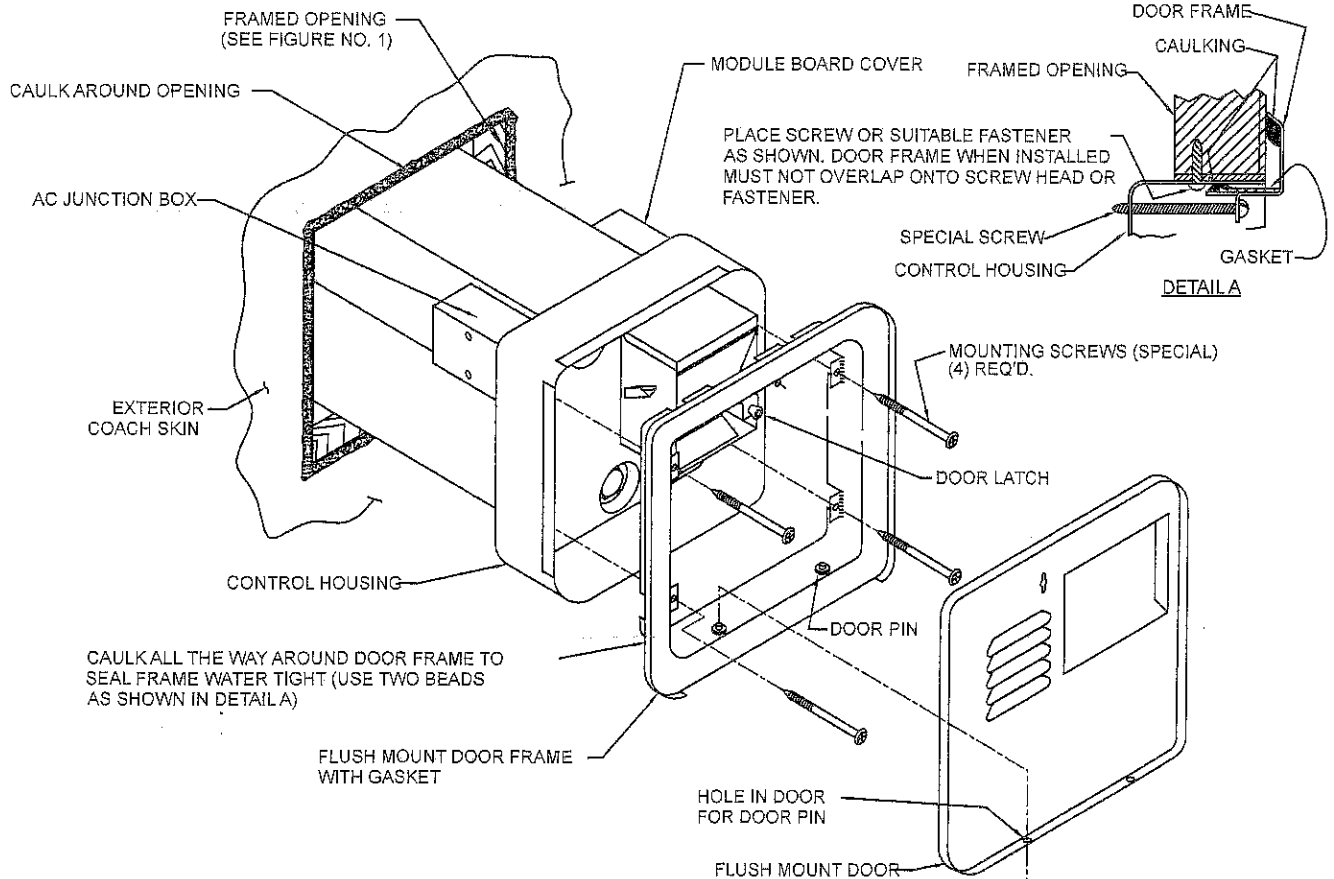

Figure 2
(See Figure 2)
- A. Position heater into framed opening as illustrated in Figure 2. Slide unit into opening until the front of the control housing is flush with the exterior coach skin.
- E. Caulk around framed opening (trailer skin) as illustrated in Figure 2.
- F. Caulk around door frame using 2 beads of silicone caulking (or suitable caulking) - one on flange to seal to control housing and one around back side of frame to seal to coach skin. (See detail A in Figure 2).
- G. Insert door frame into control housing and secure with three (4) No. 8-15 x 3 1/2" screws provided.